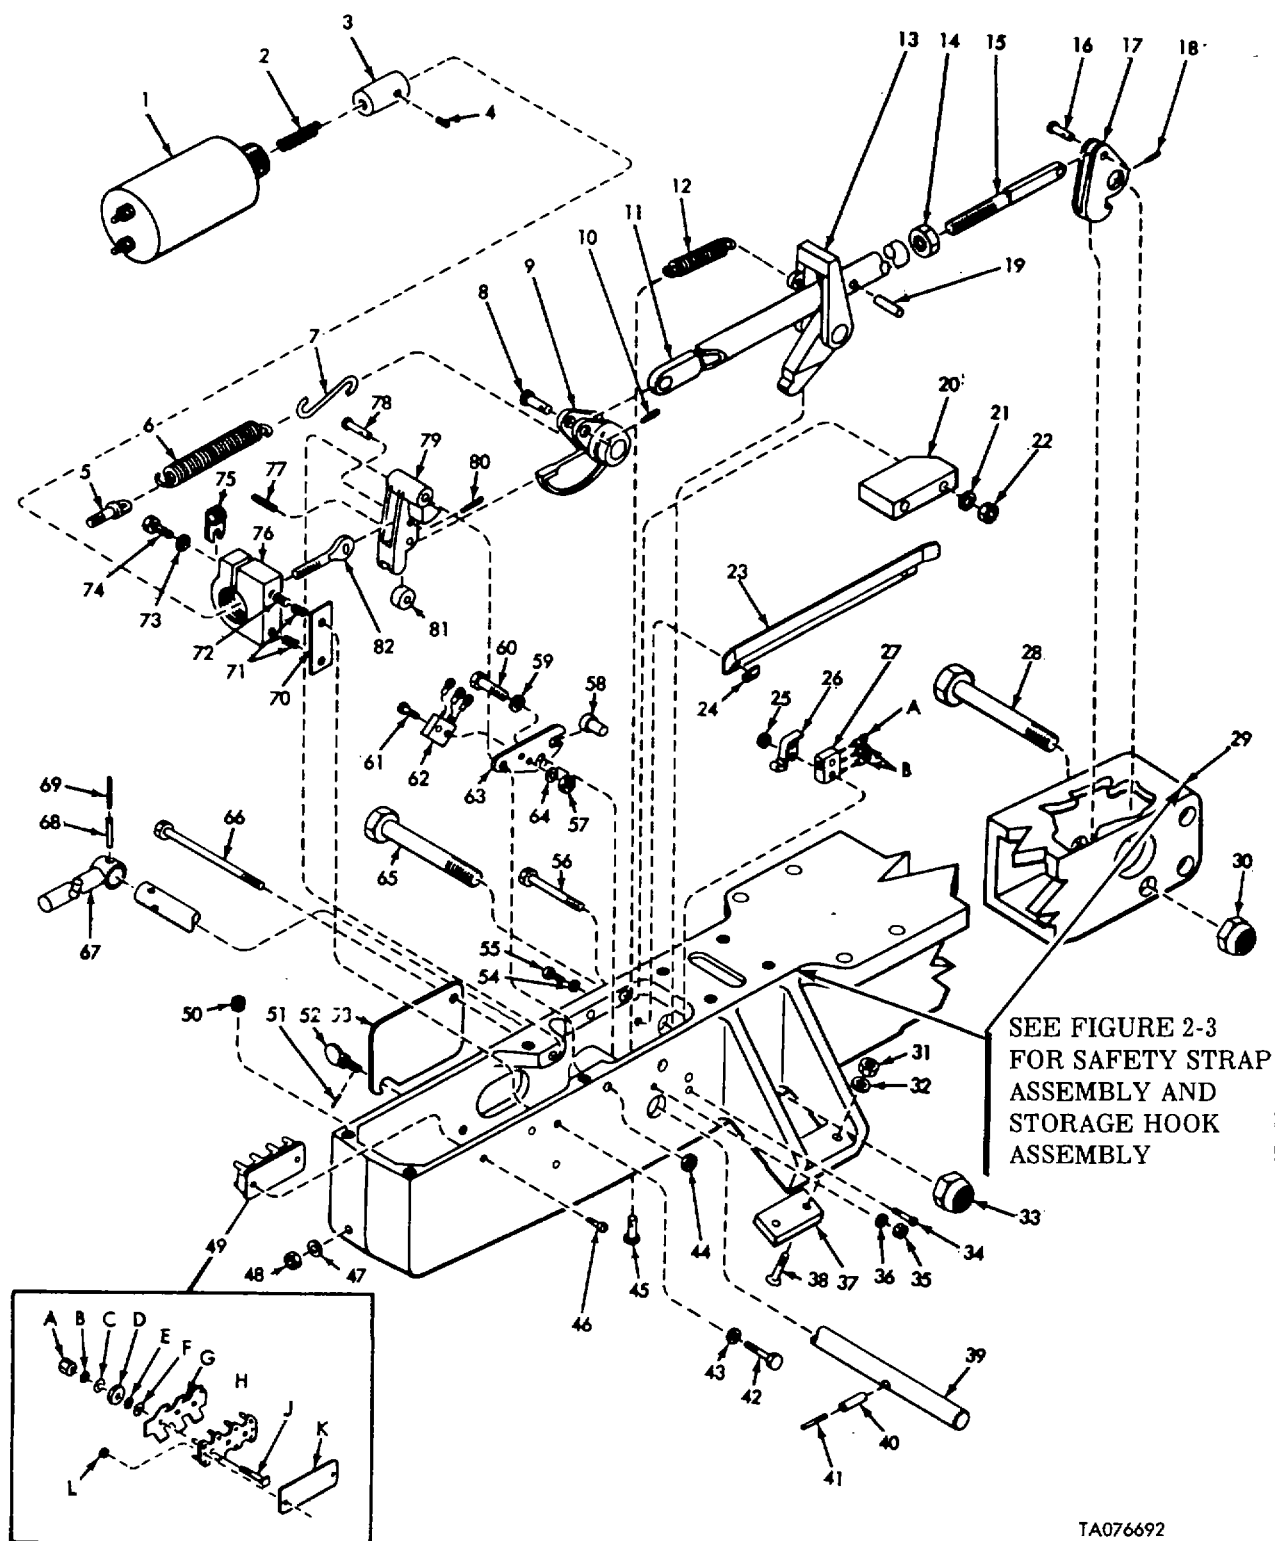

Figure 3-1. Hoisting Beam Disassembly (Sheet 1 of 2)
- a. Disassembly (fig. 3-1). The following special tools are required to perform the disassembly procedures. This procedure is predicated on the assumption that the hoisting beam is removed from the superstructure. Refer to paragraph 2-16.